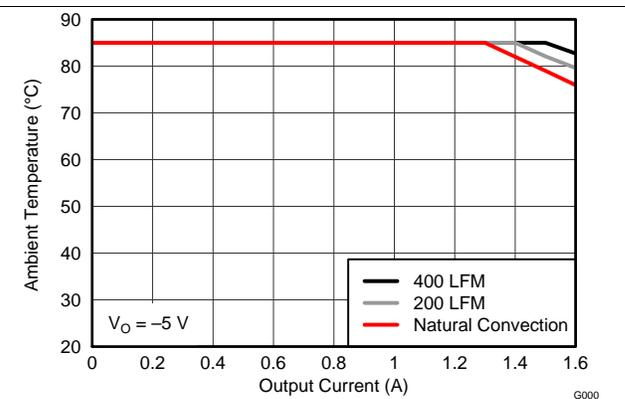
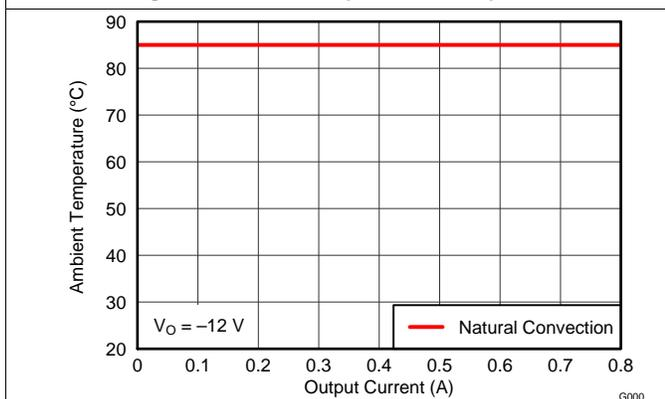
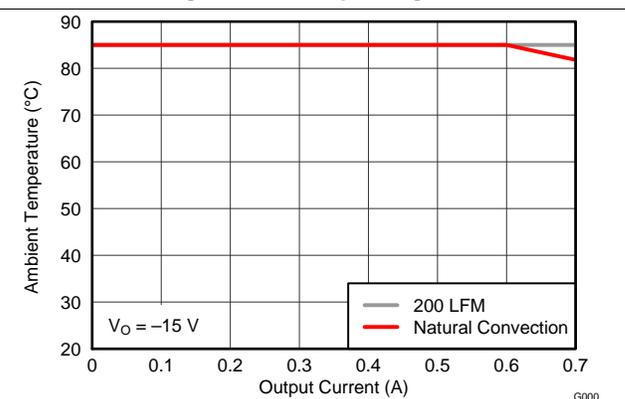

Figure 10. Safe Operating Area
Figure 11. Safe Operating Area
Figure 12. Safe Operating Area
- (2) The temperature derating curves represent the conditions at which internal components are at or below the manufacturer's maximum operating temperatures. Derating limits apply to devices soldered directly to a 100 mm x 100 mm, 4-layer, double-sided PCB with 1 oz. copper. Applies to Figure 10, Figure 11, and Figure 12.